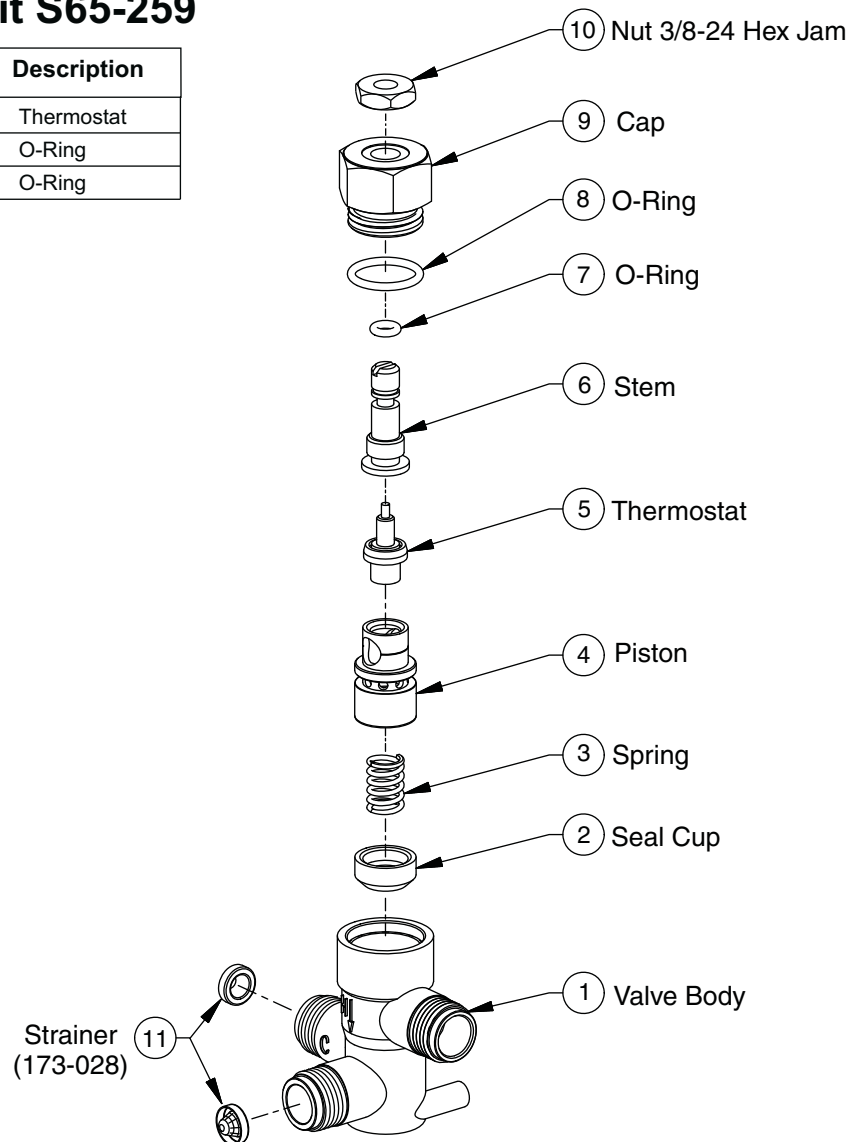

Figure 14
1. Remove and clean strainer (see Figure 14 or 15 on page 19). If strainer needs to be replaced, order Bradley part no. 173-028.
1. Remove the valve's cap and thermostat (see Figure 14 on Page 19).